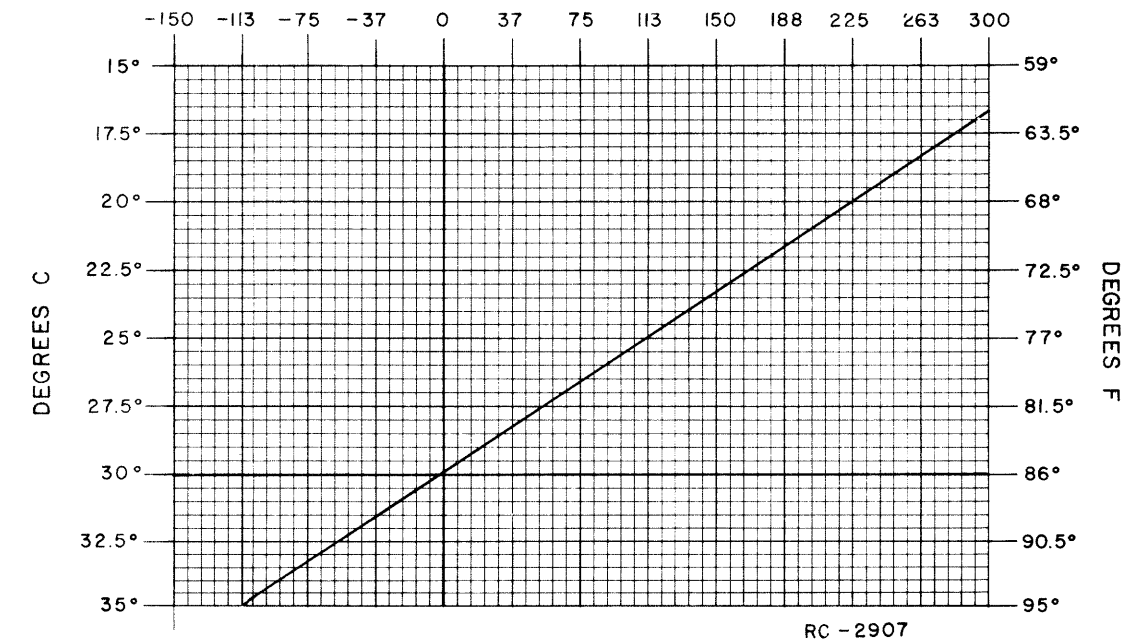

Figure 3 - Frequency Characteristics Vs. Temperature
First, check the frequency to determine if any adjustment is required. (Refer to frequency offset chart, Figure 3.) The frequency measurement requires equipment with an absolute accuracy that is 5 to 10 times better than the tolerance to be maintained. When adjusting the frequency, the entire radio should be as near as possible to an ambient temperature of 30°C (86°F).
To set crystal frequency using "beat frequency" method, the temperature should be at 30°C (86°F). If the temperature is not 30°C, then offset the "ON FREQUENCY" signal (at the receivers input), as a function of actual temperature, by the frequency ERROR FACTOR shown in Figure 3.
- Maintain the radio at 30°C (±5°C, -10°C) and offset the oscillator, as a function of actual temperature, by the frequency error shown in Figure 3.